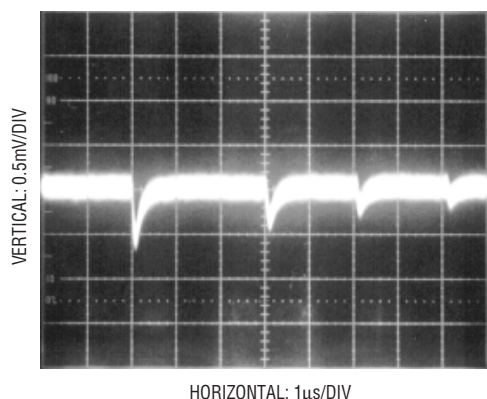

Figure 15. Adequate Reference Settling
1. Transients on the reference inputs caused by the capacitive switching currents must settle completely during each bit test (each 4 ACLK cycles). Figures 15 and 16 show examples of both adequate and poor settling. Using a slower ACLK will allow more time for the reference to settle. However, even at the maximum ACLK rate of 2MHz most references and op amps can be made to settle within the  $2\mu\text{s}$  bit time. For example an LT1019 used in the shunt mode with a  $10\mu\text{F}$  bypass capacitor will settle adequately. To minimize power an LT1004-2.5 can be used with a  $10\mu\text{F}$  bypass capacitor. For lower value references the LT1004-1.2 with a  $1\mu\text{F}$  bypass capacitor can be used.